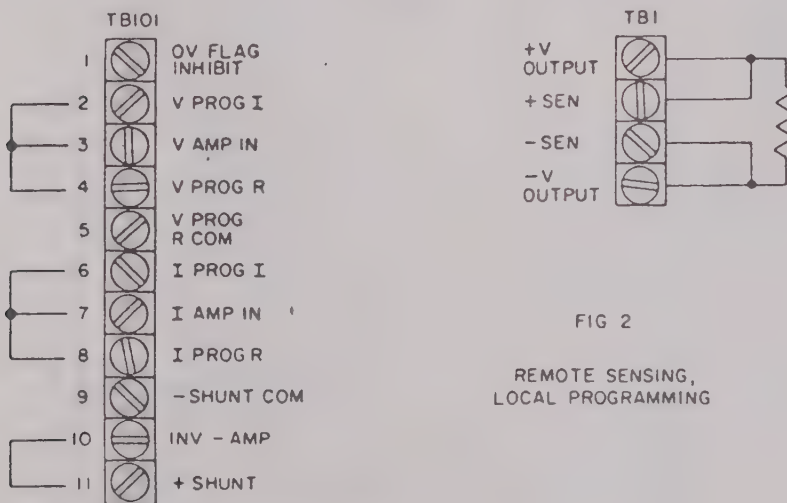

FIG 2
2.4.2 REMOTE SENSING (Figure 2)